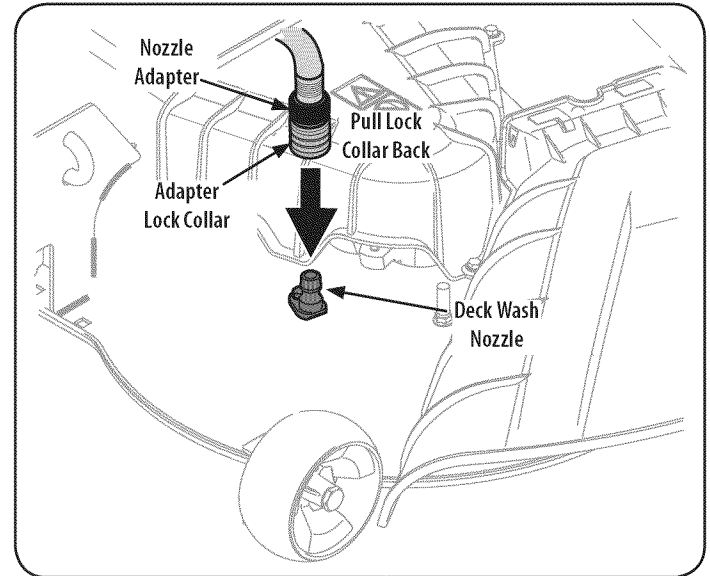

Figure 24
3. Pull back the lock collar of the nozzle adapter and push the adapter onto the deck wash nozzle at the left end of the mower deck. Release the lock collar to lock the adapter on the nozzle. Refer to Figure 24.